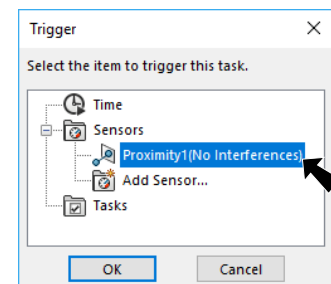

Fig. 20
Step 4. In the Trigger dialog box, expand **Sensor** and select **Proximity1**. Click **OK**, **Fig. 20.**